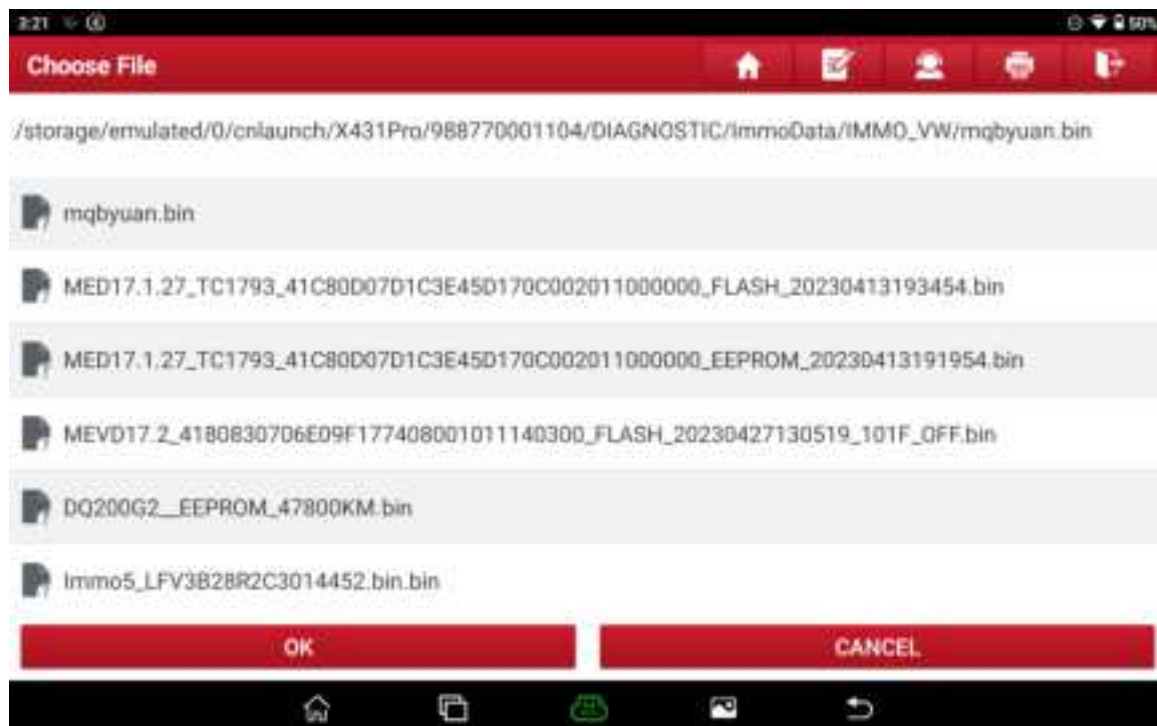

Figure 21
20. Select the instrument data read before and select OK, as shown in Figure 21.